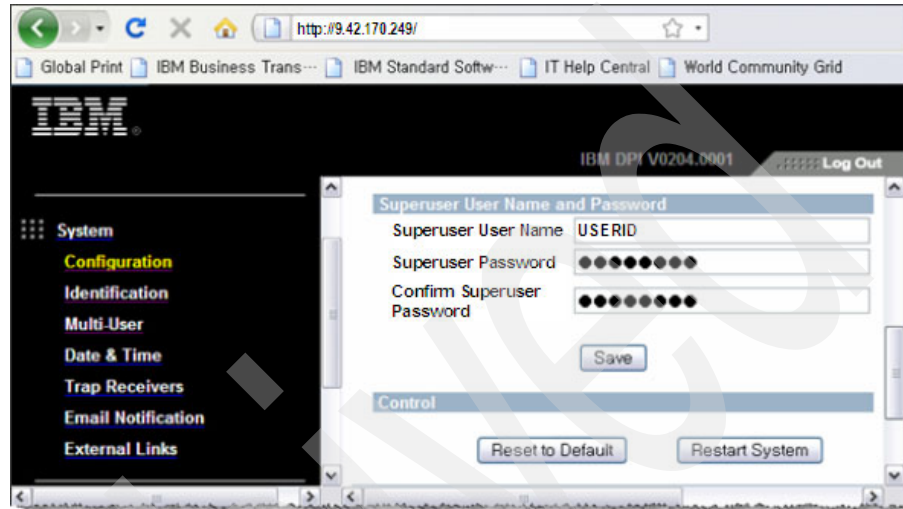

Figure 8-13 User name and password panel on the Web interface
2. In the left panel area, click **System** → **Configuration** as shown in Figure 8-13.